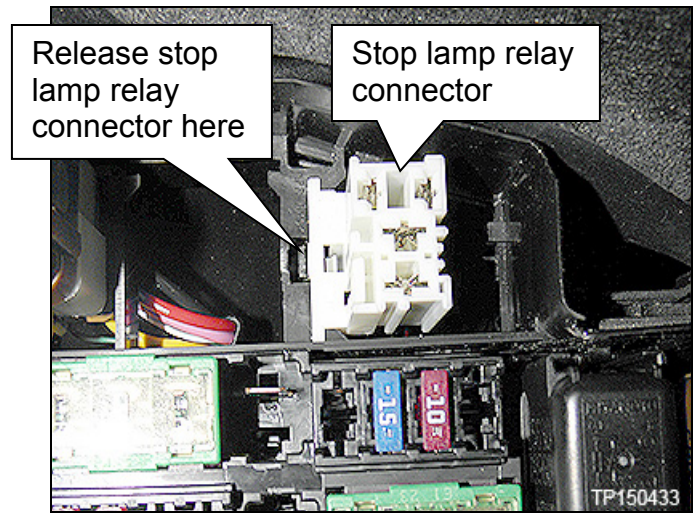

Figure 3
4. Release the stop lamp relay connector (Figure 3).